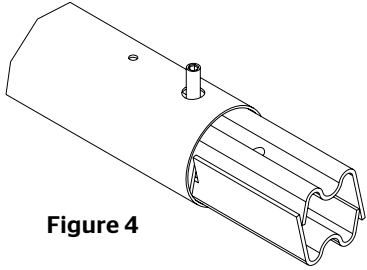

Figure 4
1. Loosely tighten set screw so that pieces will still move freely. See Figure 4.